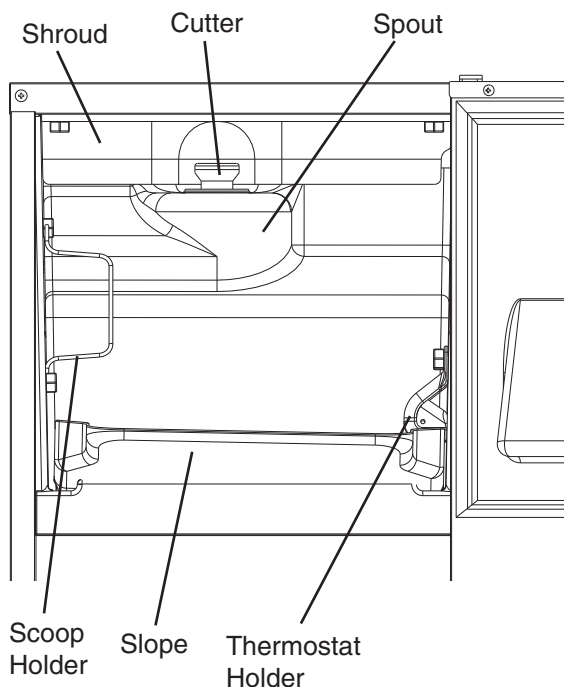

Fig. 9
- 4) Remove the slope by bending its center carefully and releasing it from the 2 slope shafts. See Fig. 9.
- 3) Remove the slope by bending its center carefully and releasing it from the 2 slope shafts. See Fig. 9.